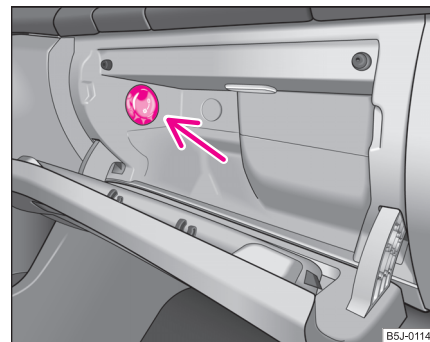

Fig. 70 Storage compartment:
- You can switch the cooling system on or off using the control dial ⇒ **fig. 70**.